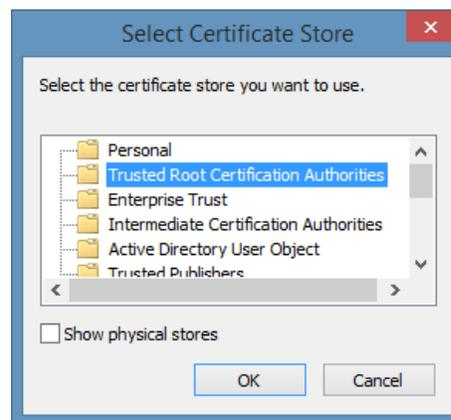

Figure 92: Trusted Root Certificate Authorities
8. **Browse to Trusted Root Certification Authorities** and click **OK** (Figure 92).